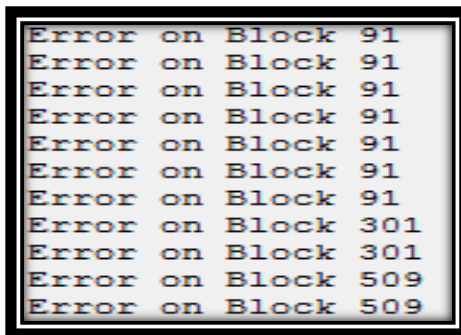

FIG. 7-2
- b. During updates, multiple error messages will appear. These are normal and when system hits one, it will simply retry sending data until it succeeds. The most common one follows format of "Error on Block #". Refer to FIG. 7-2